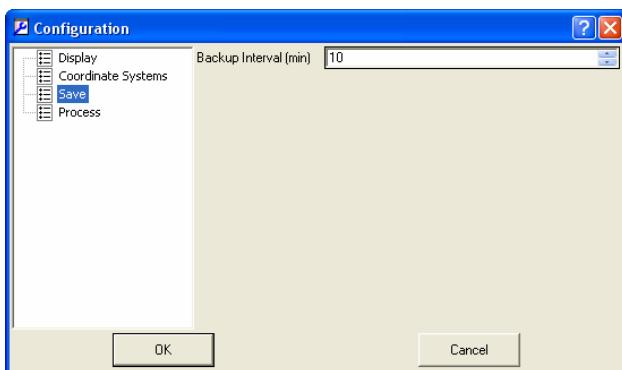

Figure 5-21. Configuration – Click Save and Set Backup Interval
5. To change autosave time intervals when editing a file, click **Save** in the *Configuration* dialog box and type the desired interval (Figure 5-21).